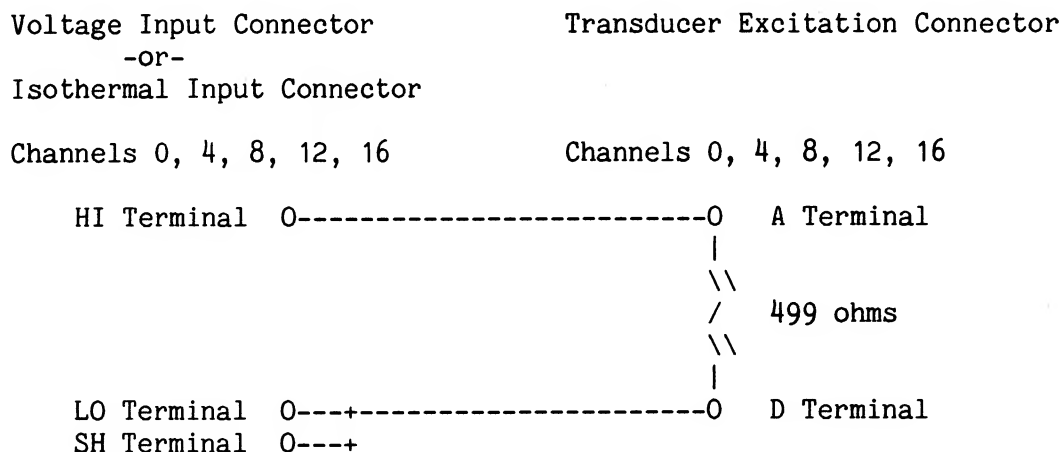

Figure 164-3. Current Excitation Test Wiring Diagram 2
13. Power down the Data Logger and remove the Transducer Excitation Connector. Rewire the connector as shown below. A 499 ohm $\pm 1\%$ resistor must be installed between terminals A and D on channels 0, 4, 8, 12, and 16 of the connector as shown in Figure 164-3.